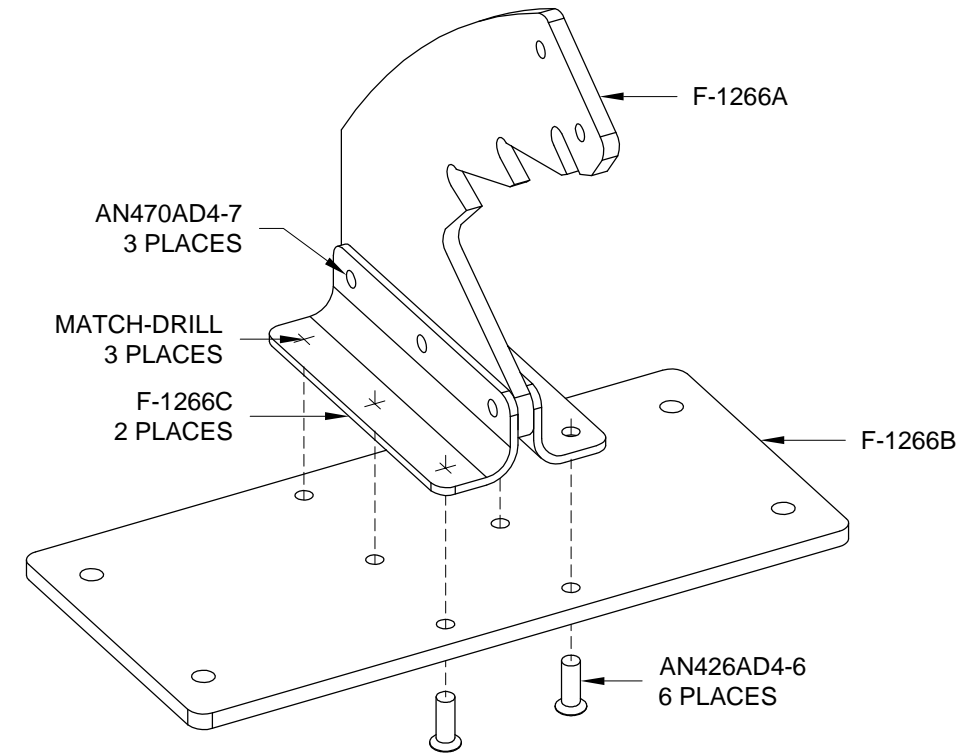

FIGURE 6: DETENT BRACKET ASSEMBLY
Step 8: Attach the F-1266C Flap Detent Bracket Angles to the F-1266A Flap Detent Bracket using the rivets called out in Figure 6.
Step 9: Cleco the F-1266C Flap Detent Angle that has the holes in its horizontal flange to the F-1266B Flap Detent Bracket Plate as shown in Figure 6.
Step 11: Machine countersink the bottom of the F-1266B Flap Detent Bracket Plate for the rivets shown in Figure 6.
Step 12: Attach the F-1266C Flap Detent Bracket Angles to the F-1266B Flap Detent Bracket Plate using the rivets called out in Figure 6.